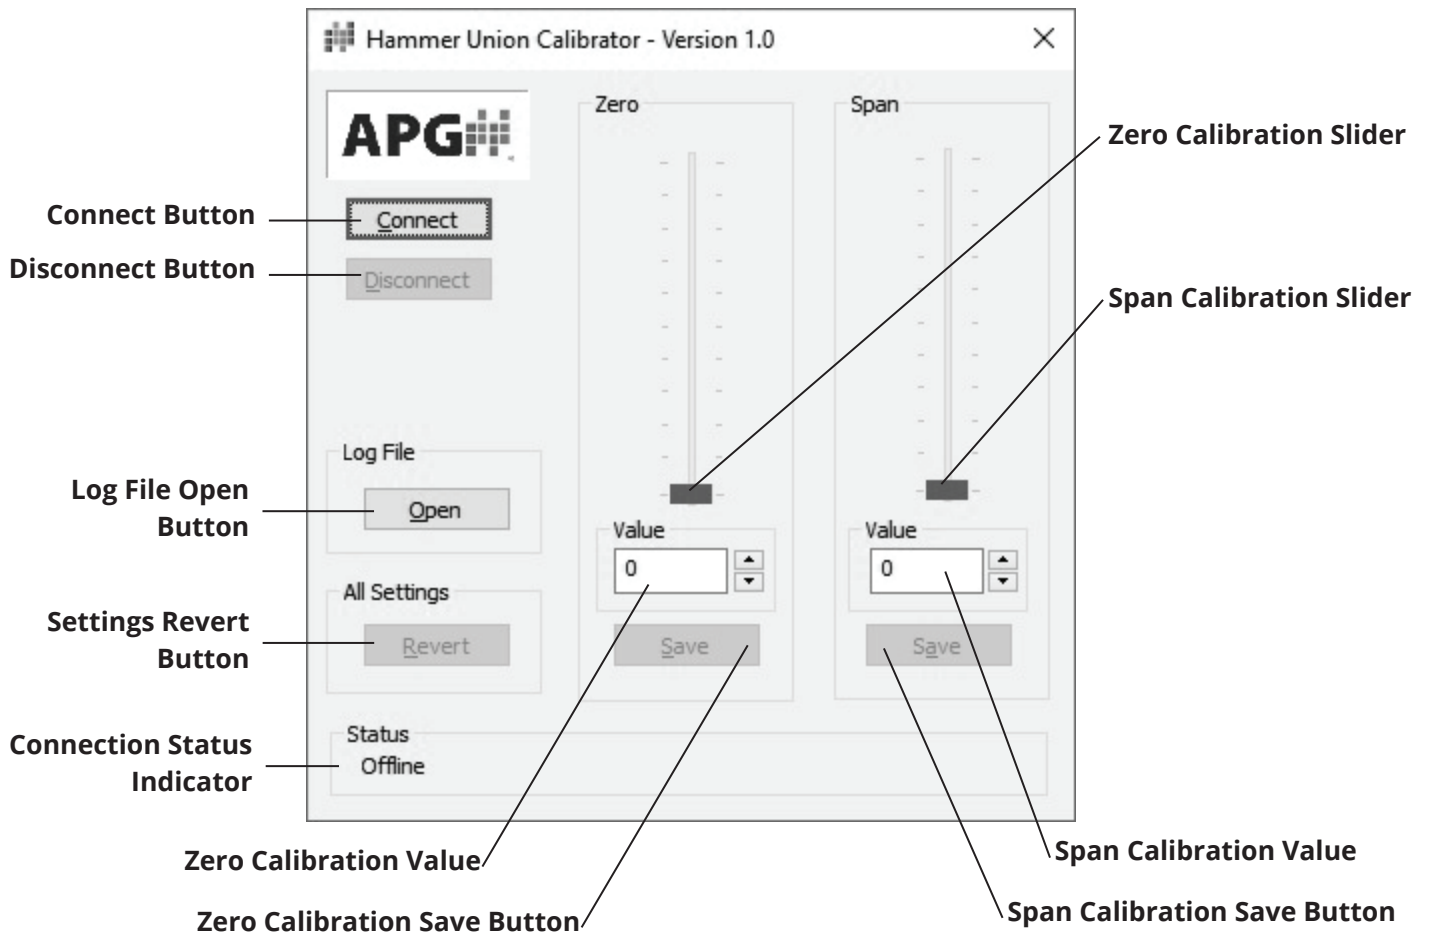
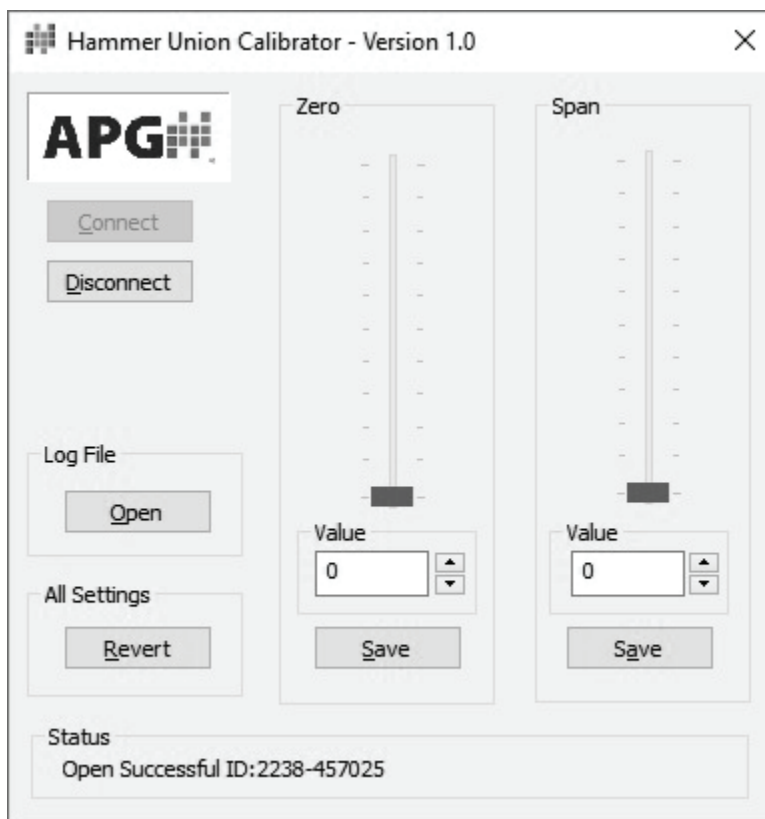

Figure 4.3
Figure 4.4
3. Click Connect Button (See Figure 4.3) to initiate connection between Hammer Union Calibrator software and HU1502I. Wait for Connection Status Indicator to read "Open Successful" (See Figure 4.4).
- 4A. With 0 pressure applied to the HU1502I, adjust Zero Calibration Slider (See Figure 4.3) until ammeter reads 4 mA or voltmeter reads 0 VDC, to the desired precision. Allow 1 second for ammeter/voltmeter reading to stabilize after adjusting slider.
pencil **Note:** Any adjustments made can be discarded BEFORE clicking a Calibration Save Button by clicking the Settings Revert Button (See Figure 4.3). Slider position and value will not reset, but ammeter/voltmeter reading will reset to value prior to slider adjustment.